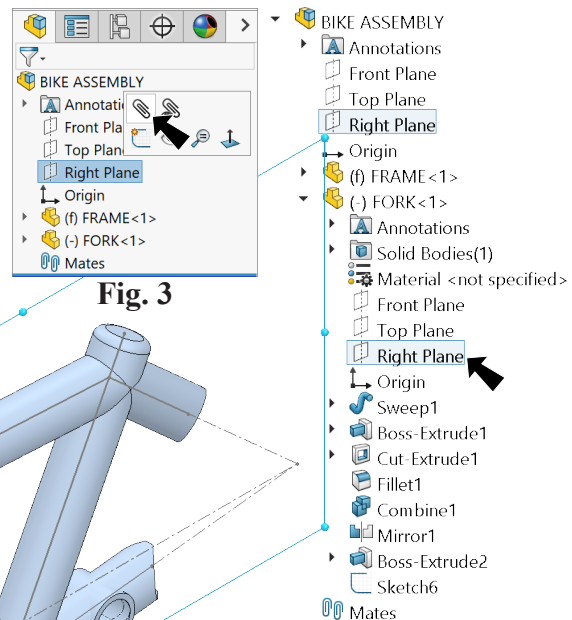

Fig. 3
Step 2. Click **Right Plane**  in the Feature Manager and **Mate**  on the context toolbar, **Fig. 3**.